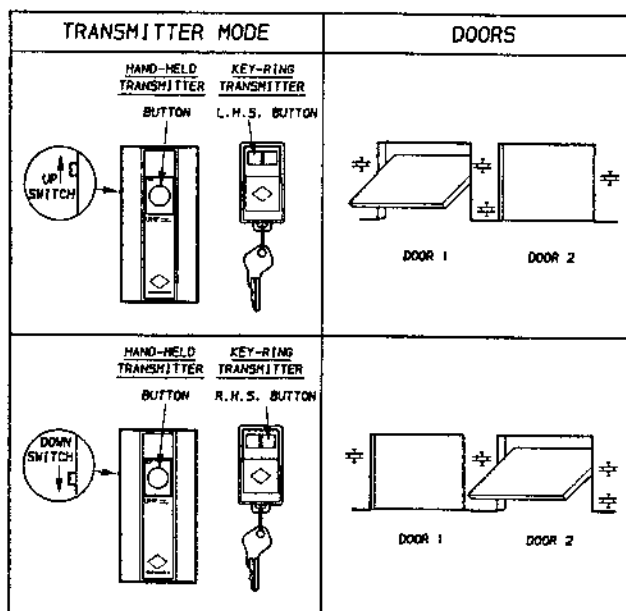

Figure 18
- When setting the code in the second garage door opener, move the side switch on the transmitter to the down position (Figure 18) and follow the procedure from Step 18-2) above.
To activate the second garage door opener, the side switch must be in the down position (Figure 18).